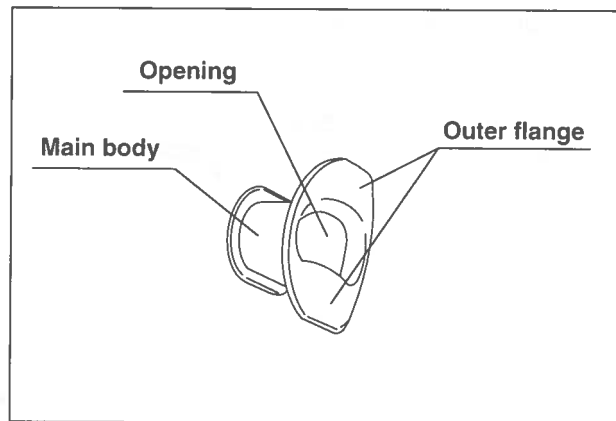

Figure 3.11
1. Confirm that the mouthpiece is free from cracks, deformation or discoloration (see Figure 3.11).
2. Using your fingers, check for excessive scratching or other irregularities on all surfaces of the mouthpiece (see Figure 3.11).